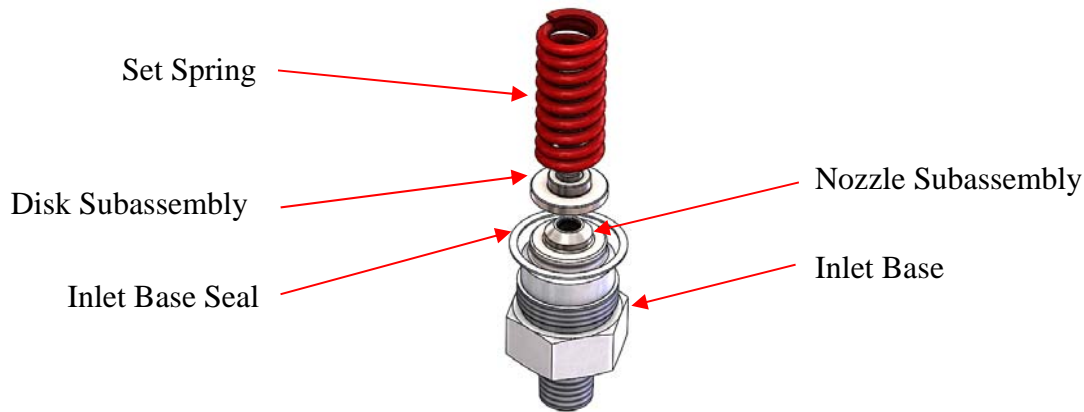

Figure 13: Bottom Entry Thread Inlet Base Components
5. Remove the set spring and discard the disk subassembly. See Figure 13.
6. Remove and discard the inlet base seal. See Figure 13.
- 6. Remove and discard the inlet base seal. See Figure 13.